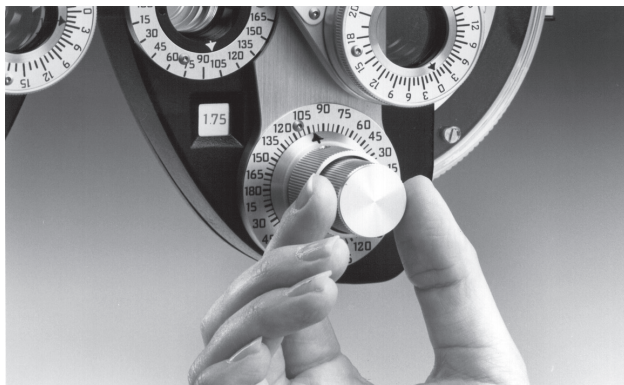

Figure TM-5 Turning Cylinder Power Knob
3. To increase power, knobs are turned clockwise. Refer to Figure TM-5.